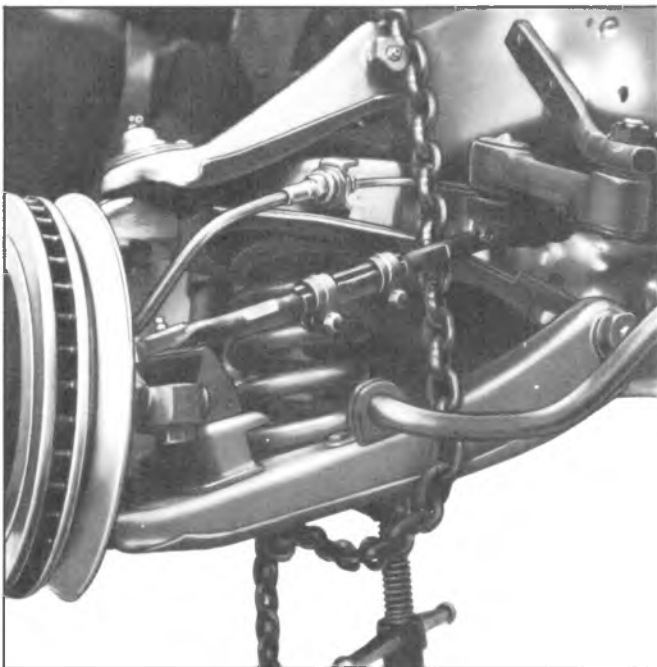

Fig. 3C-18-Removing Inner Pivot Shaft
NOTE: Use a safety chain to retain the arm in a close relationship to the frame. See Fig. 3C-18.
3. Start new bushings on shaft and into control arm. Adjust shaft until it is centered in control arm, then turn bushings in and torque to specifications. Figure 3C-19 shows correct final positioning of shaft. Check shaft for free rotation and install grease fittings.